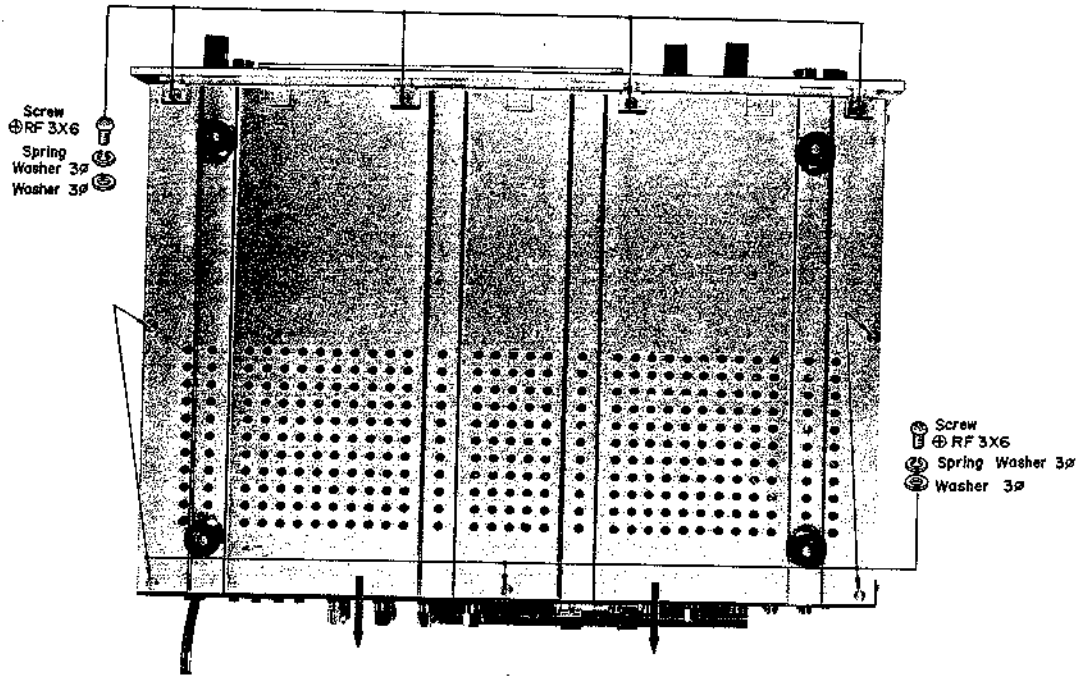

Fig. 2-1
- (b) Remove the five Phillips-head screws at the bottom of the receiver and pull the bottom plate towards the rear of the tuner. See Fig. 2-1.
- (d) Turn the receiver over and remove the four Phillips-heads screws (+ RF 3x6) at the front-bottom edge of the chassis. See Fig. 2-1. This frees the front panel.
- (a) Remove the cover and bottom plate. See Fig. 2-1.